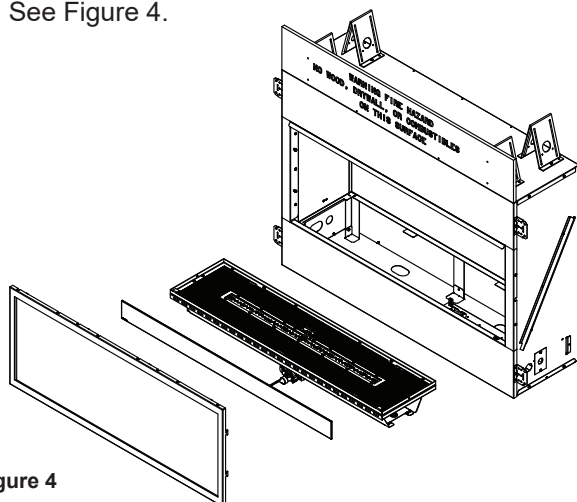

Figure 4
6. Disconnect the thermocouple wire from the thermocouple module. Disconnect the igniter wire, flame modulation wire, and 6 pin wiring harness from the control module. Once these wires are disconnected remove the engine assembly by lifting it from the appliance. See Figure 4.